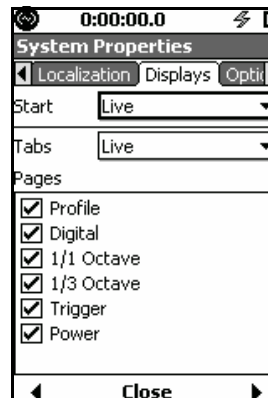

FIGURE 12-27 Displays Tab
*The default values for the **Displays** tab are shown in FIGURE 12-27.*
The **Displays** tab contains options for customization of the displays, as shown in FIGURE 12-27.